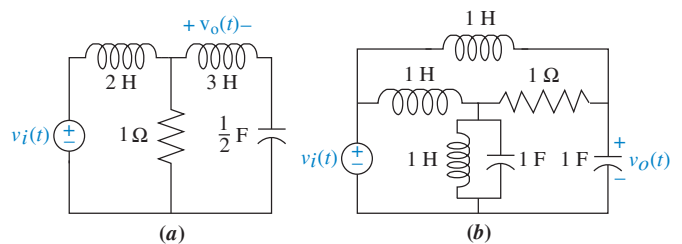

FIGURE P2.5
19. Find the transfer function,  $G(s) = V_o(s)/V_i(s)$ , for each network shown in Figure P2.5. Solve the problem using mesh analysis. [Section: 2.4]